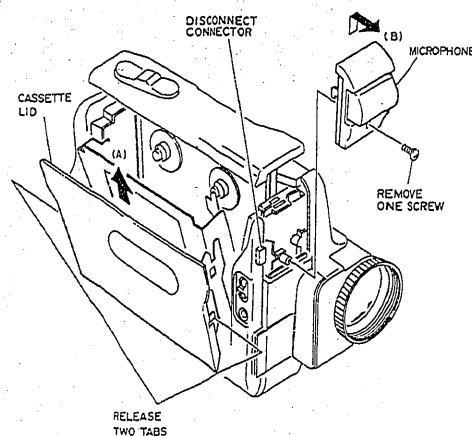

Fig. 2-3
- 1) Release two (2) tabs and remove the cassette lid in the direction of arrow (A). (See Fig. 2-3)
- (2) Microphone (MIC)
- 1) Remove one (1) screw holding the MIC. (See Fig. 2-3)
- 2) Remove the MIC in the direction of arrow (B) and disconnect connector CN001 on the jack circuit board.